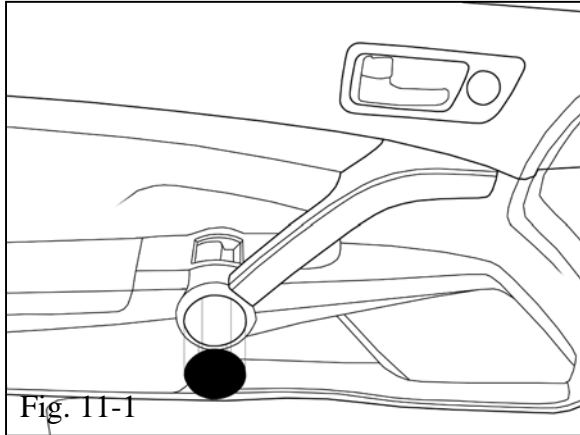

Fig. 11-1
- (1) Align part uniformly to edge of factory component. Edge of appliqué should be flush to edge of factory component, $\pm 1.0\text{mm}$. (Fig. 11-1)
- (2) Gently touch part into position.